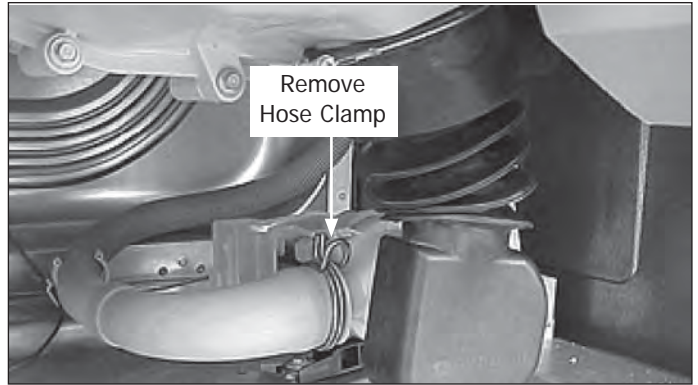

Figure 4-81.
2. Release the clamp and slide the hose off of the drain pump. (See Figure 4-81)